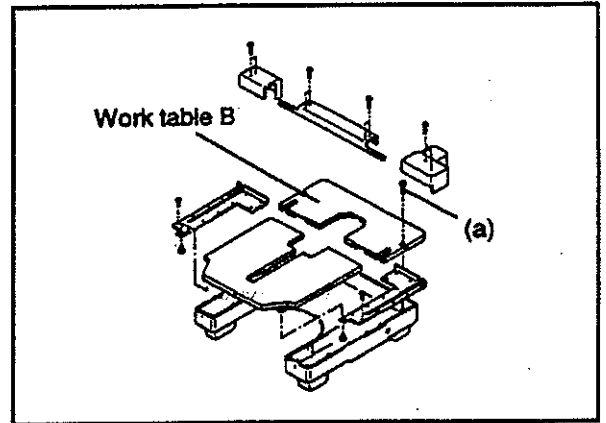

FIG.1
- (1) Remove two retaining screws (a) and the work table B (Fig.1).